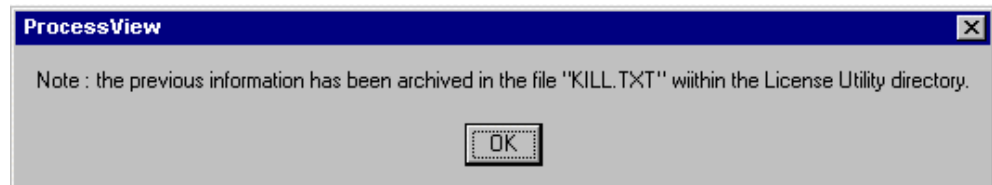

Figure 3.29. Message Confirming Creation of KILL.TXT File
35. Upon successful deletion, a file called "KILL.TXT" will be created in the "Softlic" directory, which has the name, date, and last authorized key and confirmation code. A message will appear informing you that the file has been created, as shown in **Figure 3.29**.